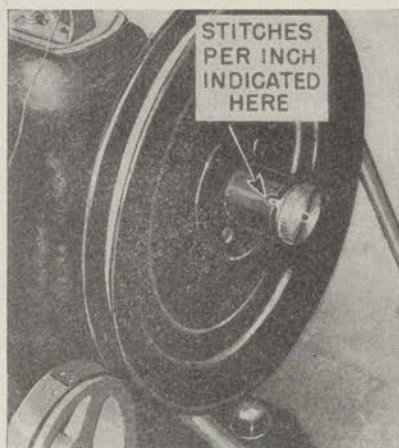

FIGURE 101.—Stitch regulator.
p. To regulate length of stitch.—(1) The length of stitch is regulated by the feed-regulating spindle (fig. 101) at the right of the balance wheel.